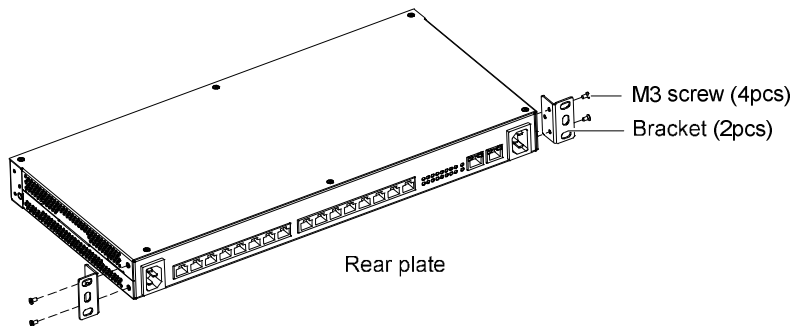
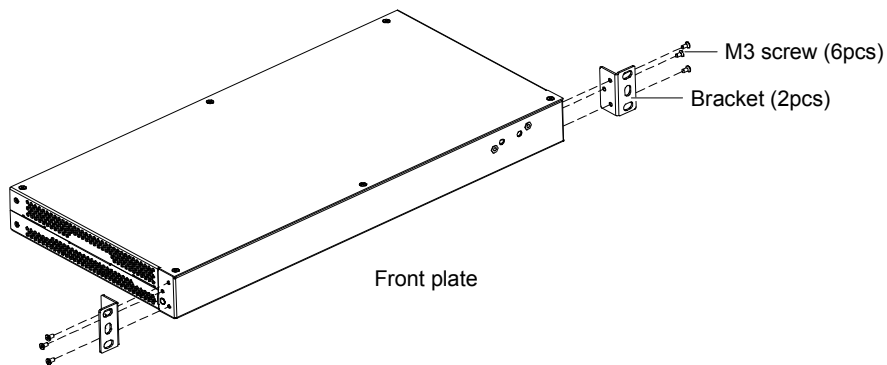

Figure 2-4 Installing brackets (on both sides of rear plate)
Figure 2-5 Installing brackets (on both sides of front plate)
3. According to the cabling mode, fix the brackets (accessories) to both sides of the front or rear plate with the provided M3 screws, as shown in Figure 2-4 and Figure 2-5.